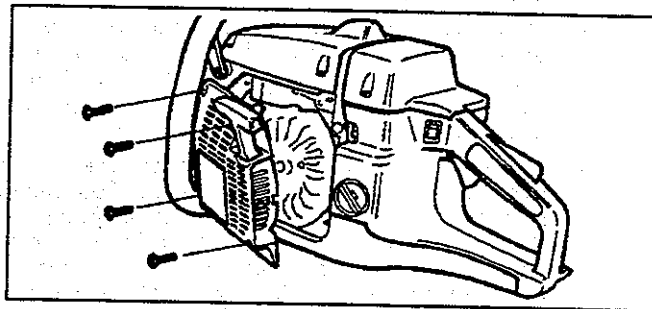

Figure 37
2. Remove the four screws on the side of the fan housing. Figure 37.